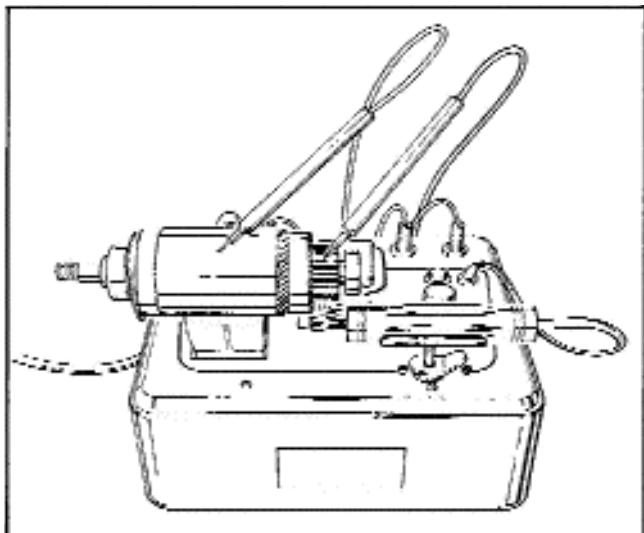

Figure 11 - Armature Ground Test
4. Touch one test probe to commutator and other to armature core. Test lamp should be OFF, indicating no continuity. If the test lamp is on, the armature is grounded and must be replaced. See Figure 11.